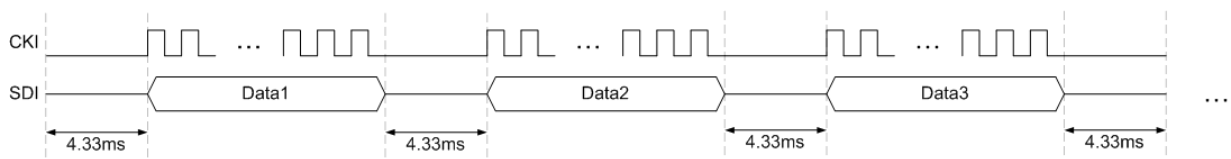

Figure 21. The Diagram of prefix is 4.33ms
From equation (3), $T_{d0} = 16.67ms - 1us \times 48 \times (256+1) = 4.33ms$. The time is larger than the time of $172 \times 1us = 172us$. The data stream can be recognized, as shown in Figure 21.